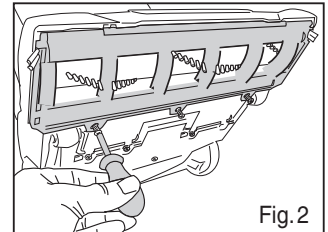

Fig. 2
• Lay vacuum with back on floor. Remove 3 screws (Fig. 2). Rotate brush roll plate up and lift off.